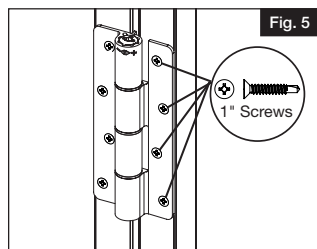

Fig. 5
- f.) Re-position gate on post and secure hinges with 1" screws (Fig. 5).